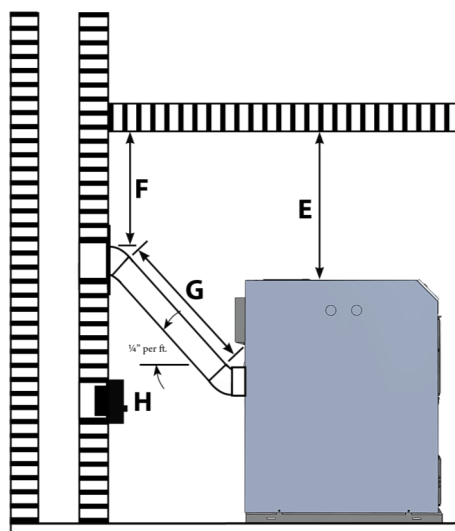

Fig 3.1
The smoke pipe connecting the boiler to the chimney flue must be black or stainless, have a minimum thickness of 24 gauge, and rise a minimum of ¼" per foot of run toward the chimney (**Fig3.1**). Smoke pipe sections must be attached to one another with a minimum of three sheet metal screws and sealed with high-temp silicone. The smoke pipe should not contain more than two 90° elbows (45° elbows are preferred over 90° elbows).
- Recommended draft regulator location (**1**) is shown in **Fig 3.1**.